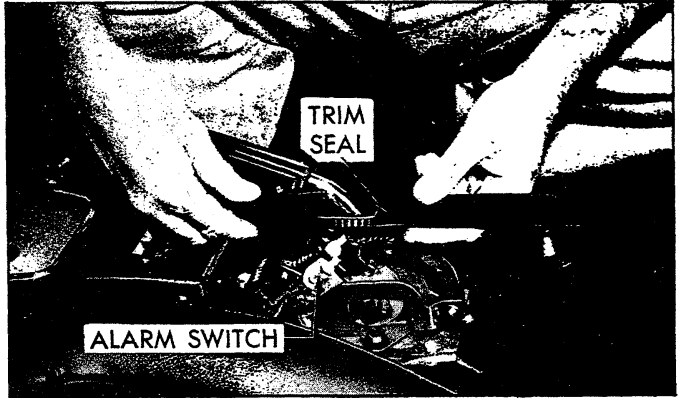

Fig. 24—Removing or Installing Trim Seal
5. Remove trim seal from lever (fig. 24).
3. Secure parking brake alarm switch to side of lever assembly with washer and screw (fig. 24).
4. Install trim seal on lever (fig. 24).